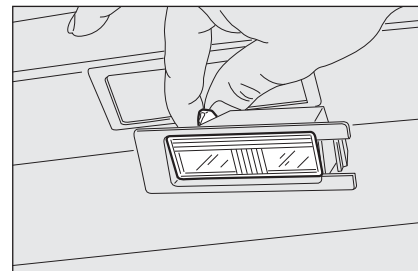

fig. 29
- ☐ change the bulb **fig. 29** by releasing it from the side contacts and making sure the new bulb is correctly fastened between these contacts;